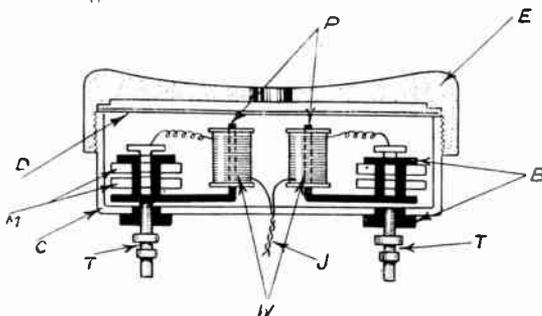

Fig. 2.—THE COMPONENTS OF A MAGNETIC DIAPHRAGM TYPE OF RECEIVER.
**T**HE telephone headgear is one of the oldest links in the wireless receiver for translating electrical waves into sound vibration. In all the commercial types the moving parts are either a metal diaphragm or a non-magnetic diaphragm operated by a magnetic reed linked to the diaphragm, as shown in Figs. 2 and 6.